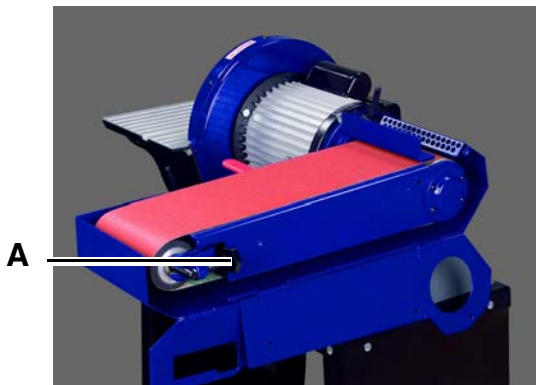

Fig. 17: Adjustment of belt run
Step 1: The run of the sanding belt can be changed by the run adjusting screw A (Fig. 17). When the sanding belt itself moves towards the sanding disc, screw the adjusting screw clockwise.